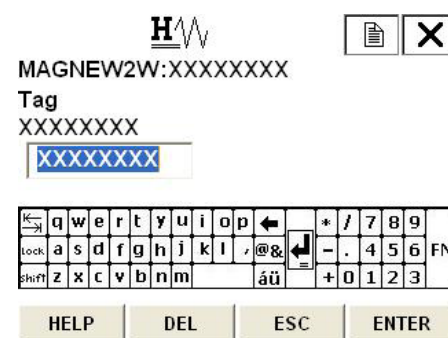

Figure 7-92
Figure 7-92 will then be displayed.
- Once the display as shown in Figure 7-92 appears, use the arrow key up, down, right or left and numerical keys to enter the number. After entering, press F4 (ENTER). If F3 (ESC) is pressed here, the selection will be canceled and the display will return to the Basic setup menu.